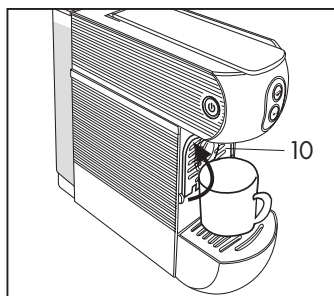

Fig. 5
- Check that there are no capsules in the machine and turn it on with the main switch (11).
- Close the small cup support (10) and place a large empty cup under the dispensing spout (4). **(Fig. 5)**
Open the support (10) to prepare espresso coffee correctly and to use small cups **(Fig. 7)**. To use large cups, close the support (10) and place the cup directly on the grid of the drip tray (5). **(Fig. 5)**